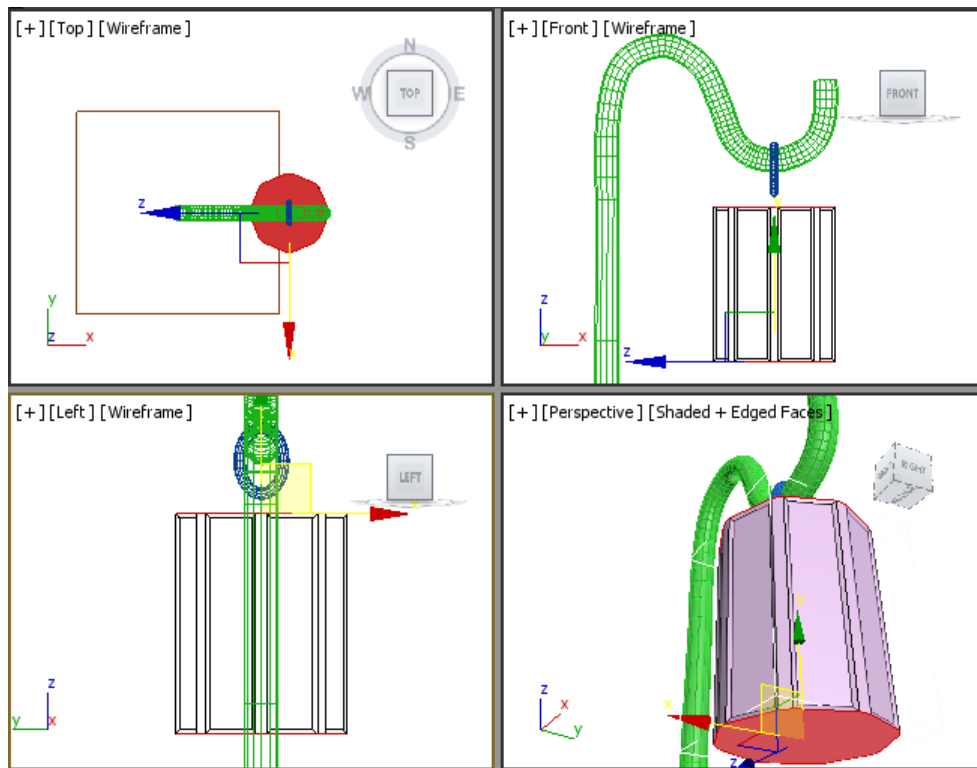

Figure 5-35 The selected polygons
10. Select the uppermost and lowermost polygons, as shown in Figure 5-35.